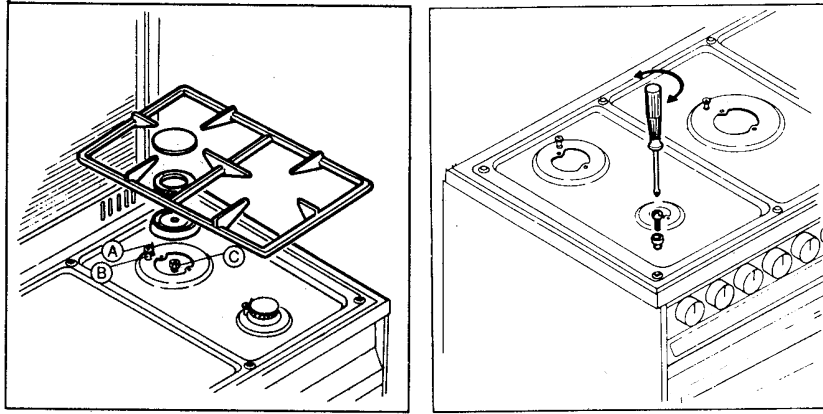

Fig.7
- remove the grids, covers, flame diffuser and the burner supports (fig. 7);